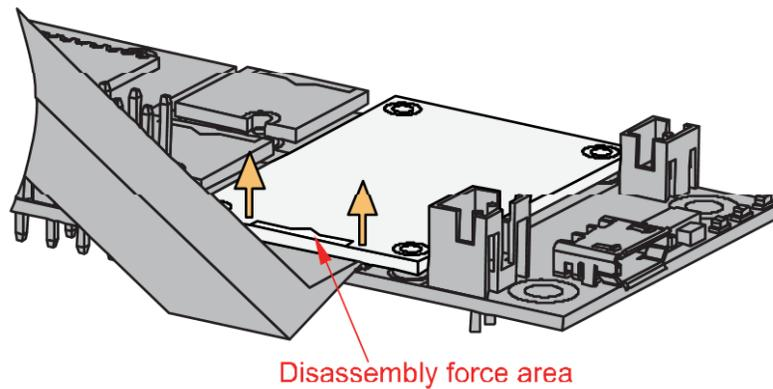

Figure 5: Applying even forces on the proper location of a WisBlock module
3. Apply force to the module at the position of the connector, as shown in **Figure 5**, to detach the module from the base board.